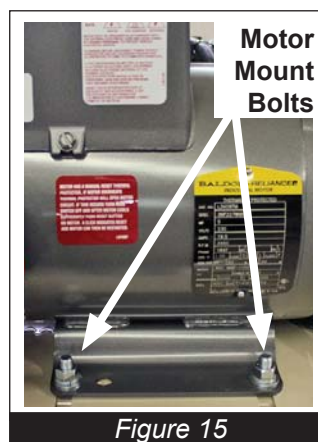

Figure 15
- Loosen motor mounts (4) (Figure 15)